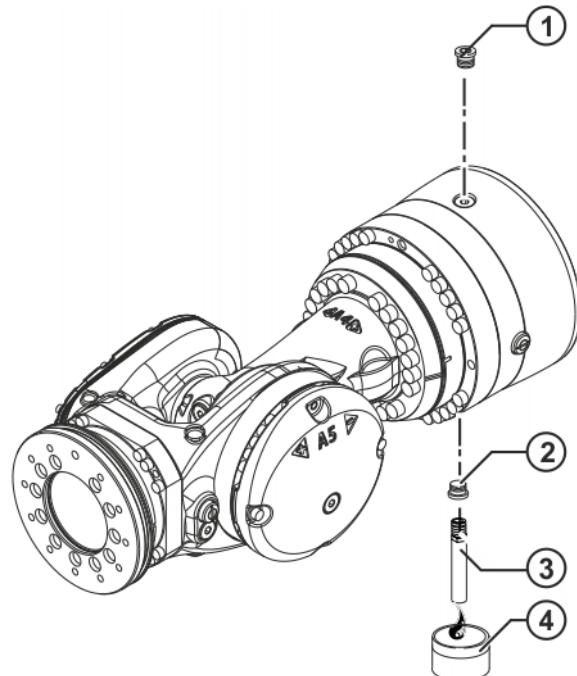

Fig. 9-9: Draining the oil from A4
1. Place a suitable receptacle (**>>>** Fig. 9-9) under the lower magnetic screw plug and remove the lower magnetic screw plug. It is easier to drain the oil if an M18x1.5 oil drain hose is screwed into the tapped hole of the magnetic screw plug.